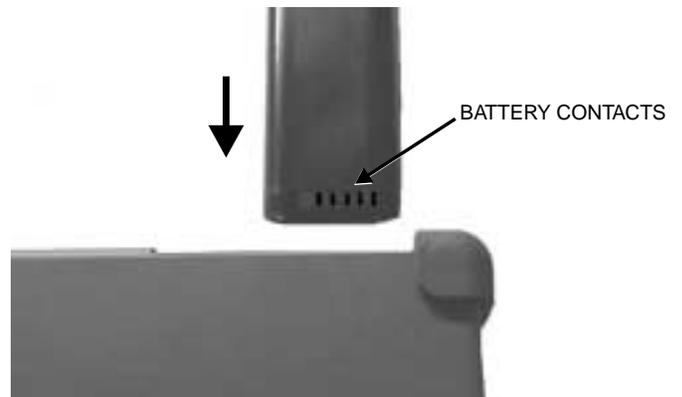

Figure 9. Battery Orientation
5. Replacement is the opposite of removal. Note the orientation of the battery contacts, and be sure to insert the new battery with the contacts facing the rear of the unit (Figure 9).